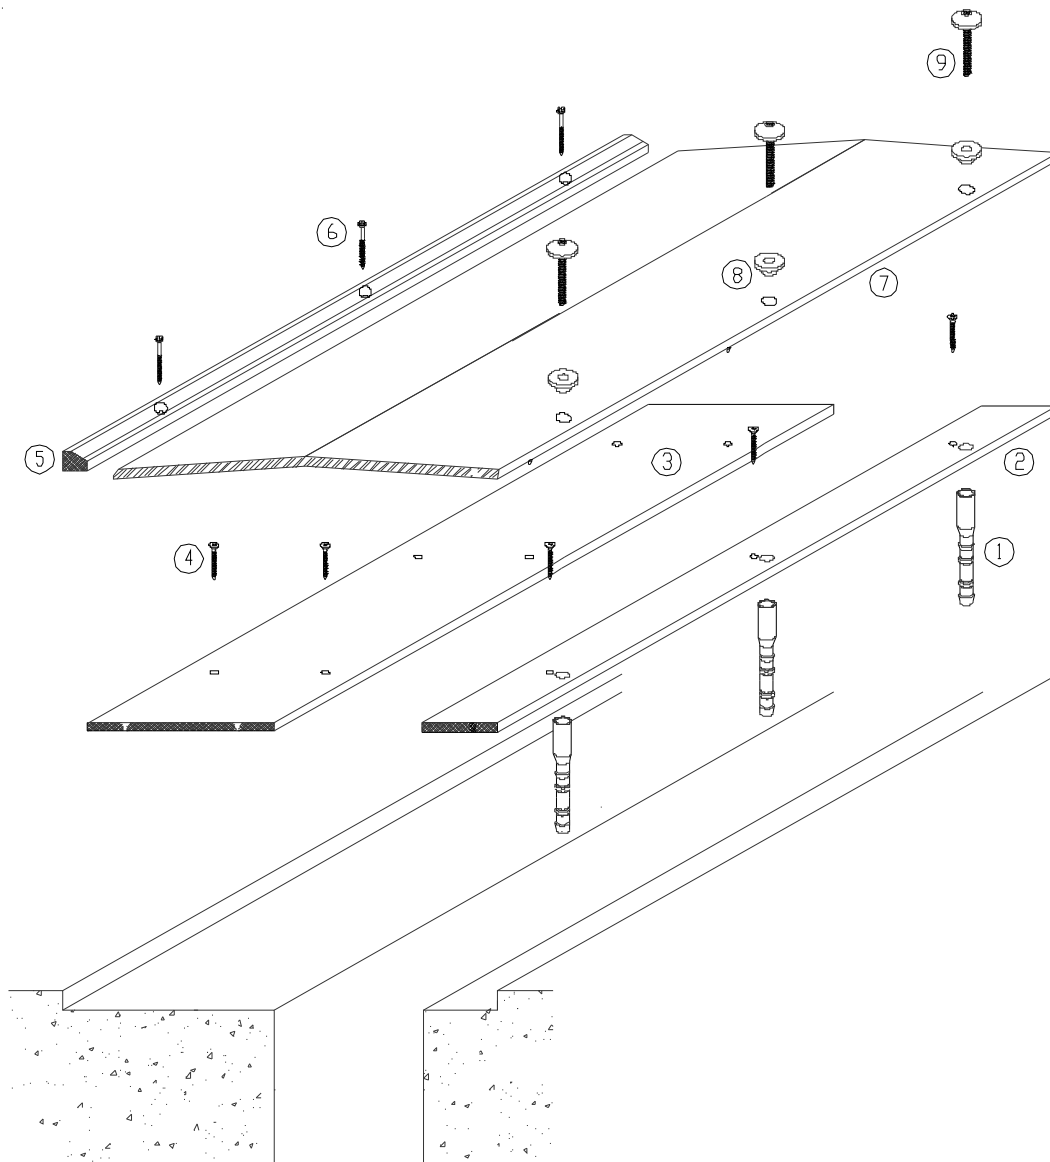

Figure 1
These installation instructions are for use in the installation of Balco, Inc. Retrofit HPG375 Series Parking Garage Expansion Joint Cover Systems. The HPG375 Series is primarily designed for cast-in-place installation; however, these systems have been modified to allow retrofit installation. The Retrofit HPG375 Series Parking Garage Expansion Joint Cover System is illustrated in Figure 1. The system shall be installed as follows:
STEP 2. Provide blockouts for Balco, Inc. expansion joint covers in accordance with the approved shop drawings (see Figure 1). Blockouts may be formed at the time of the initial concrete pour or at a later time by removing material from the slab. To ensure a good installation, use level and true blockout materials. Inspect the blockouts to see that they are flat, level, and clear of all debris. Prepare and clean the blockouts as needed.